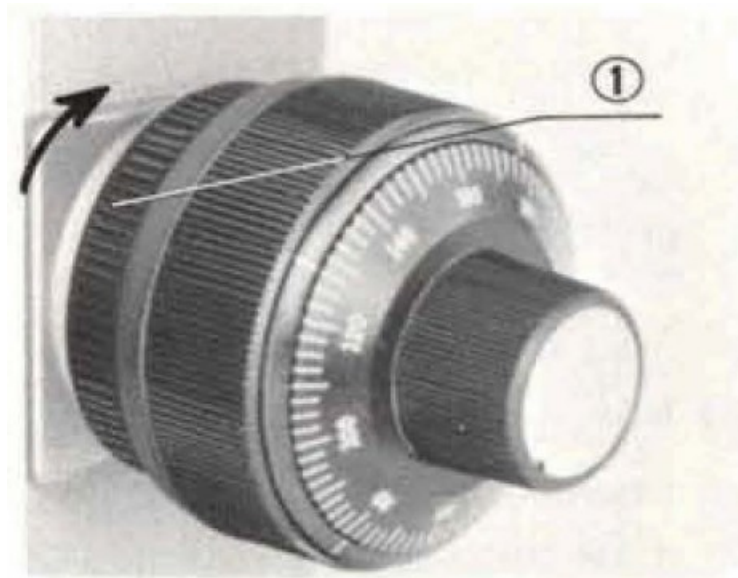

Fig. 7
- 1) Tension adjustment of coarse adjustment knobs A tension adjustment ring 1 is provided next to the right hand coarse adjustment knob. With this device the tension of the coarse adjustment is freely adjustable for either heavy or light movement depending on operator preference. (Fig. 7)